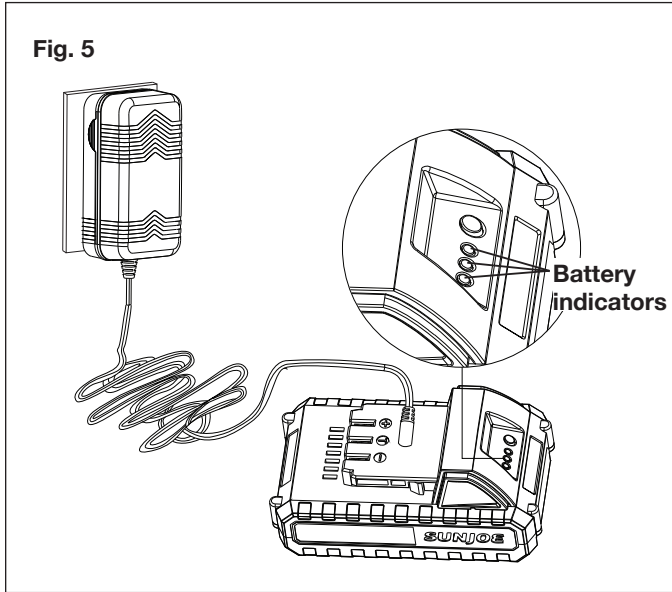

Fig. 5
2. Check that the main voltage is the same as that marked on the rating plate of the battery charger. Then, plug the charger adapter into an appropriate AC power outlet. Connect the charger plug into the charge socket of the battery to start charging (Fig. 5).